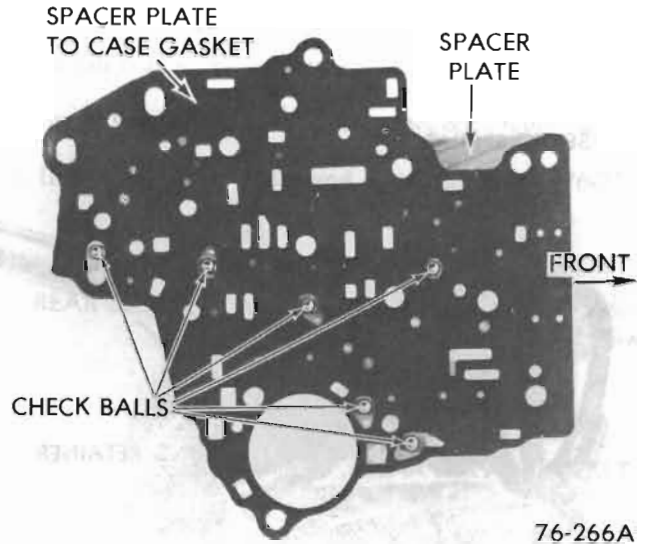

Figure 76-266A
**NOTE:** If transmission is in car, install check balls into ball seat pockets on spacer plate. See Figure 76-266A.